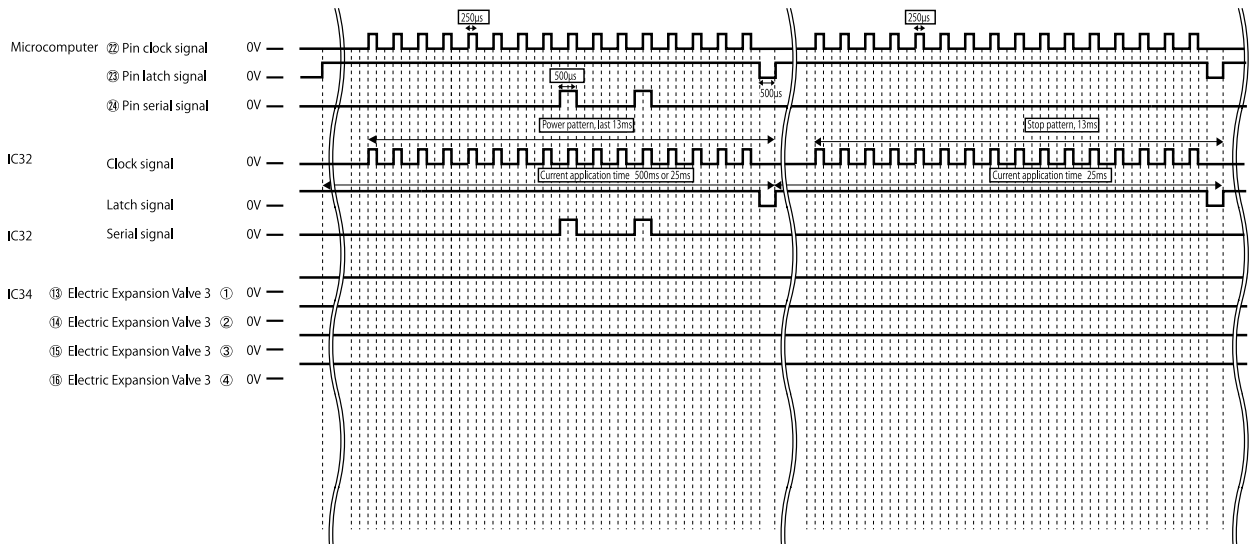

Fig. 5-3 Time Chart
- An example of circuit operation when an expansion valve is powered is shown in the time chart in Fig. 5-3.
- ① A clock signal (16 cycles at 750μs/cycle) is output from pin ② on the microcomputer. (One cycle for the clock signal is 500μs off, 250μs on.)
- ② A serial signal #1 of the power pattern is synced with the clock signal and output from pin ④ of the microcomputer. #1 The serial signal is the pattern of the current applied to phase 1 or phase 2 of a 4-phase wound wire on an expansion valve, that has then been converted to serial format. A serial signal is output so that the center of the ON serial signal (Hi-level 500μs) aligns with the rising edge of the clock signal.